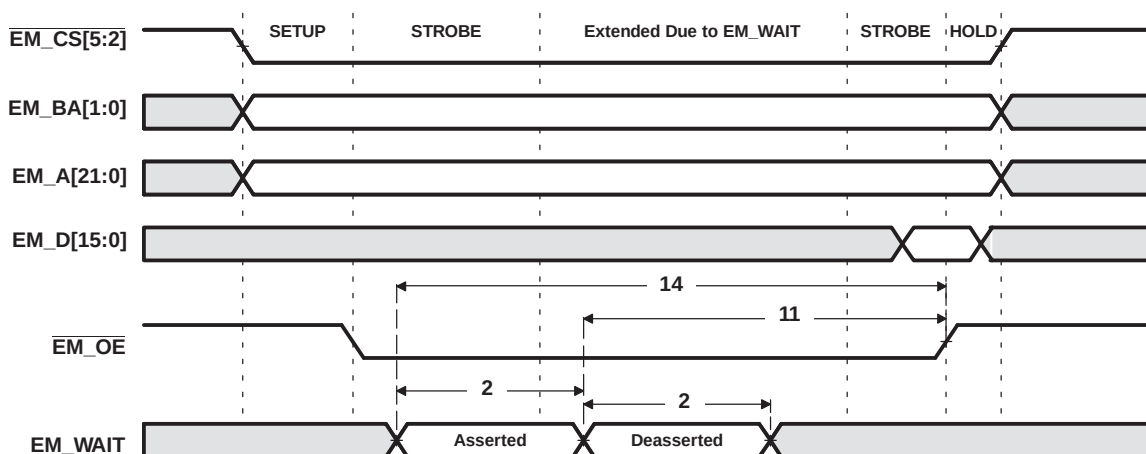
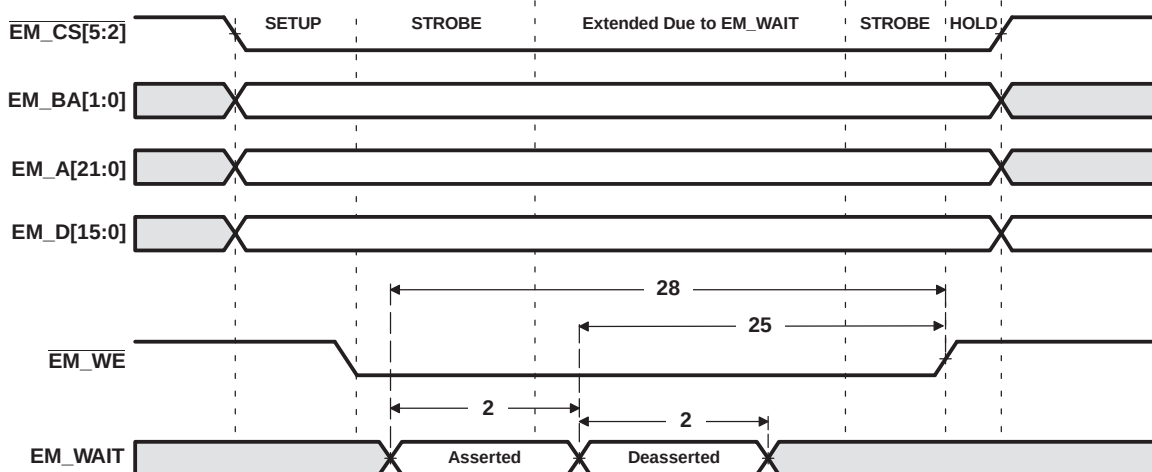

Figure 6-21. EM_WAIT Read Timing Requirements
Figure 6-22. EM_WAIT Write Timing Requirements
(1) E = SYSCLK5 period in ns for EMIFA. For example, when SYSCLK1 is 540 MHz, use E = 11.11 ns.
(2) Setup before end of STROBE phase (if no extended wait states are inserted) by which EM_WAIT must be asserted to add extended wait states. Figure 6-21 and Figure 6-22 describe EMIF transactions that include extended wait states inserted during the STROBE phase. However, cycles inserted as part of this extended wait period should not be counted; the 4E requirement is to the start of where the HOLD phase would begin if there were no extended wait cycles.